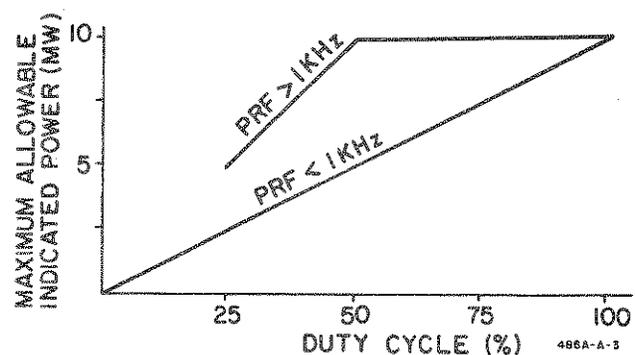

Figure 2. Maximum Power Meter Reading vs. Duty Cycle for Pulses Longer than 250 μ sec
16. For pulses longer than 250 μ sec, the peak power limitation can be expressed in terms of PRF: 10 mW for a PRF below 1 kHz, 20 mW for a PRF 1 kc or above provided 15 mW average is not exceeded. In Figure 2, the peak power limit is translated into power-meter reading versus duty cycle. (For a PRF less than 1 kHz and an indicated power between 2 and 3 mW, use the 10-mW range. Errors as much as 2% may be introduced if the 3-mW range is used.)